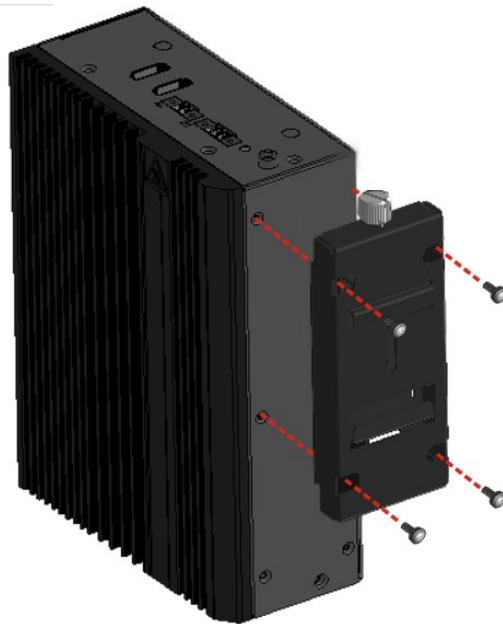

Figure 3-23: DIN Rail Mounting Bracket
- Step 1:** Attach the DIN rail mounting bracket to the rear panel of the DRPC-130-AL. Secure the bracket to the system with the supplied retention screws (Figure 3-23).